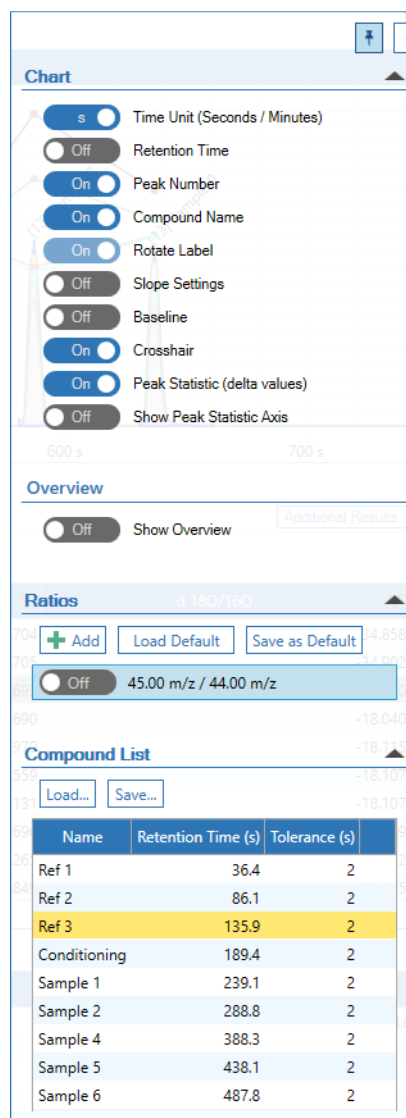

Figure 7-37. Chart Settings with sections Chart, Overview, Ratios, and Compound List
- access to the Compound List ('Compound List') (see Figure 7-37).